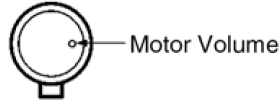

Fig. 11
3. Adjust the motor screw so that the following output level is produced. (Fig 11)